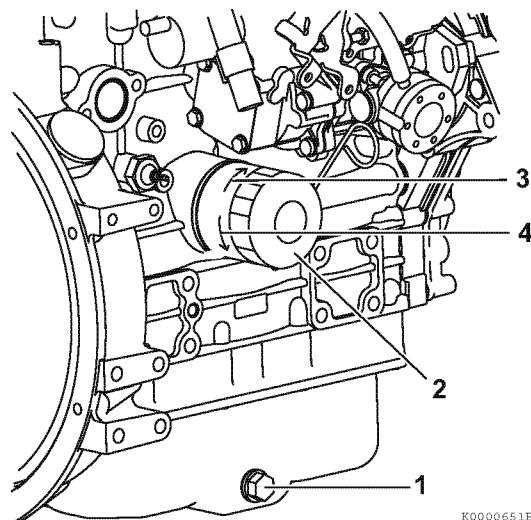

Figure 5-8
6. Remove the oil drain plug (1, **Figure 5-8**). Allow oil to drain.
7. After all oil has been drained from the engine, reinstall the oil drain plug (1, **Figure 5-8**) and tighten to 39.8 - 47.0 ft-lb (53.9 - 63.7 N·m, 5.5 - 6.5 kgf·m).
1. Turn the engine oil filter (2, **Figure 5-8**) counterclockwise (4, **Figure 5-8**) using a filter wrench.
3. Lightly coat the gasket on the new oil filter with clean engine oil. Install the new engine oil filter manually by turning it clockwise (3, **Figure 5-8**) until it contacts the mounting surface. Tighten to 14 - 17 ft-lb (19.6 - 23.5 N·m, 2.0 - 2.4 kgf·m or one additional turn using the filter wrench.